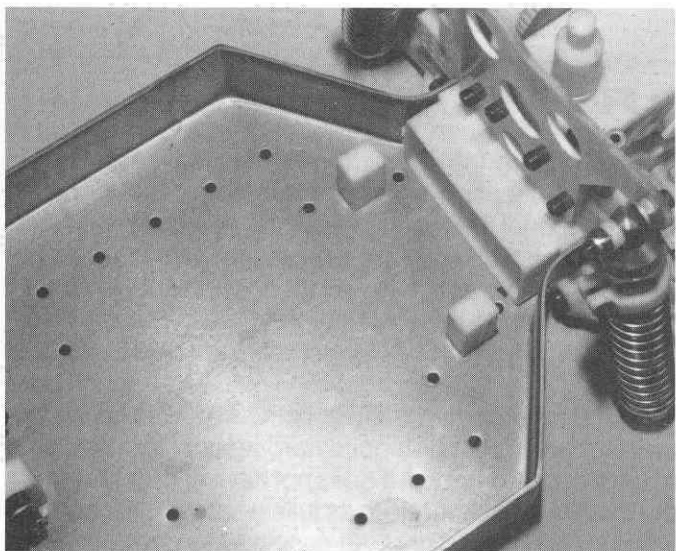

Fig. 156
□ **Fig. 156** See page 35 for a description of servo sizes. Do the following steps to mount a medium sized throttle servo. Install the servo mounts to the chassis temporarily, using the wider spaced mounting holes.